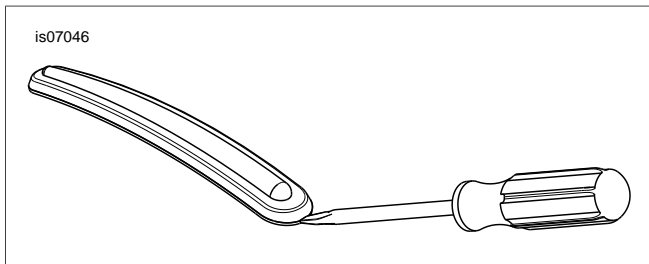

Figure 1. Remove Fender Trim Strip
- b. See Figure 1. Insert the tip of the screw driver between the chrome bezel and the rubber trim strip.